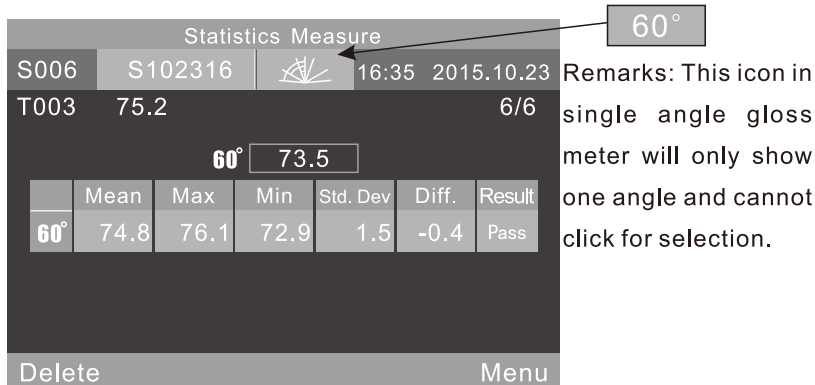

Figure 11 Single Angle Measurement under Statistical Mode
(1)Statistical Mode: A single angle measurement is shown in figure 11.